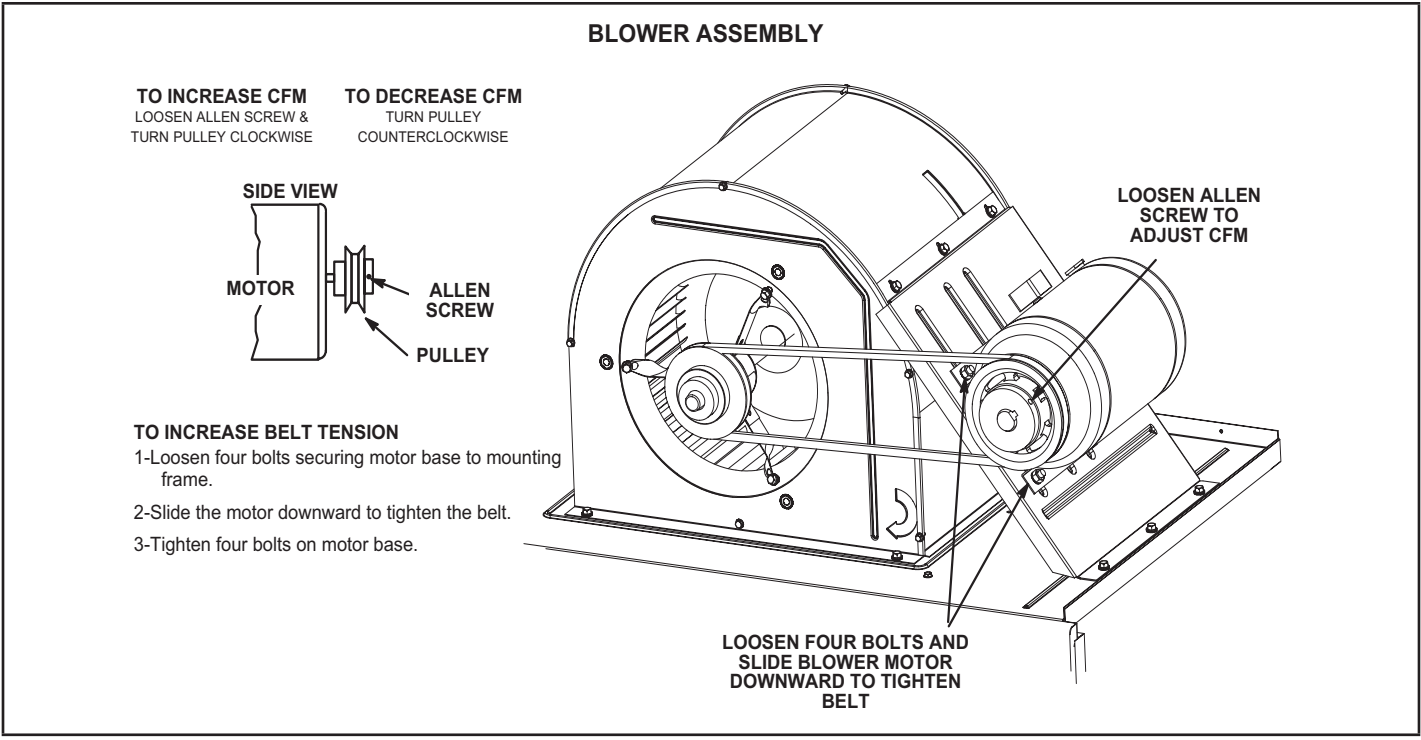

FIGURE 12
- The blower RPM can be adjusted at the motor pulley. Loosen Allen screw and turn adjustable pulley clockwise to increase CFM. Turn counterclockwise to decrease CFM. See FIGURE 12. Do not exceed minimum and maximum number of pulley turns as shown in TABLE 4.
- 1 - Loosen four bolts securing motor base to mounting frame. See FIGURE 12.